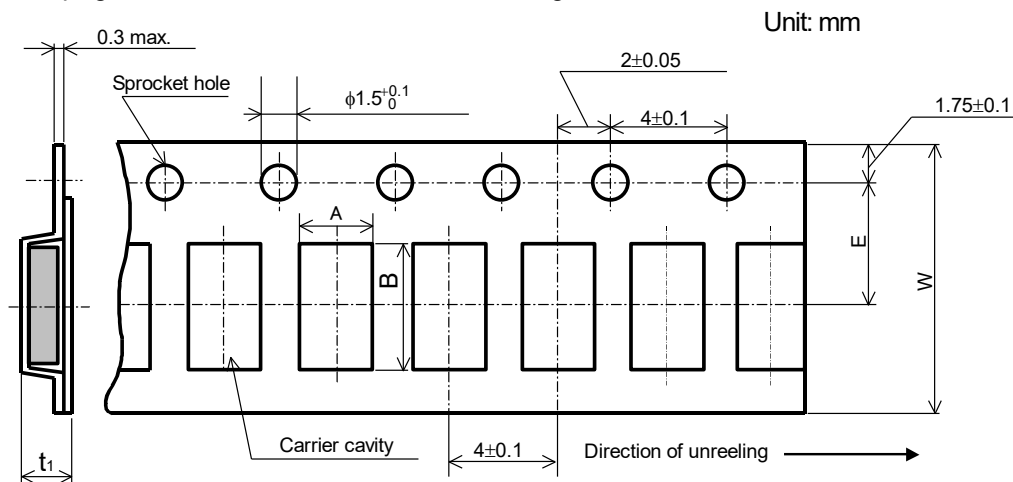

Figure-5
8.2.3 Embossed tapping dimensions shall be in accordance with Figure-5 and Table-8.